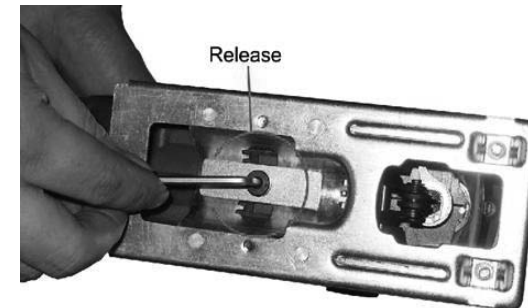

Fig. 4
NOTE: If the base plate is loose and shaky, release the screw by hex. spanner for inverse hour, move the base plate back to ensure the slot of base plate is engaged with gear casing, press the screw and tighten the screw (original position) and check whether the base plate firmly. Tighten the screw. (See **Fig. 4**)
1. Loosen the baseplate (7) by pulling the lever for angle cutting adjustment which located on the underside of the tool.(See Fig. 4)